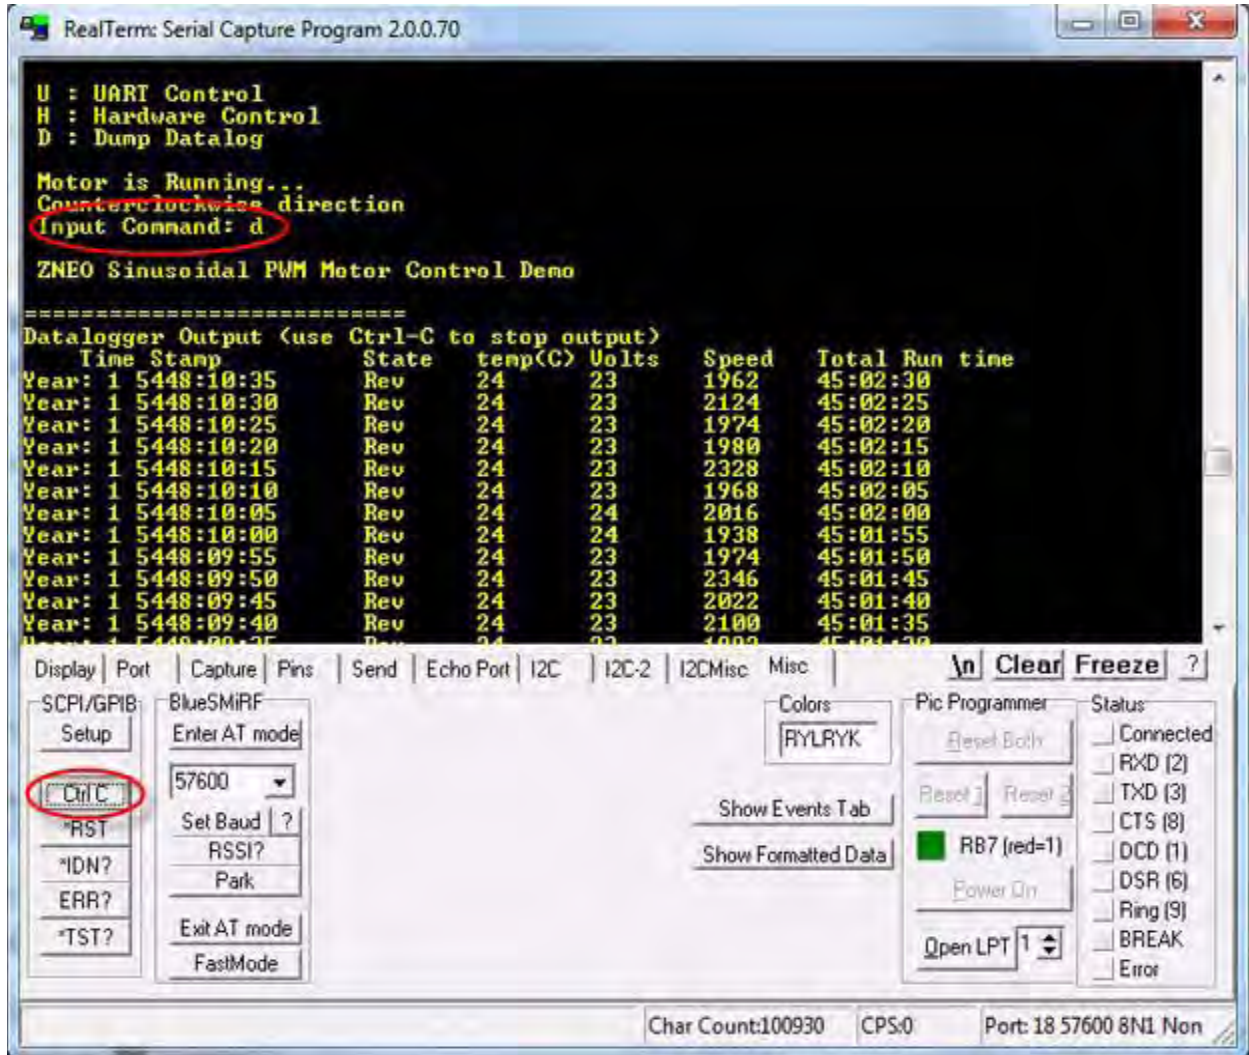
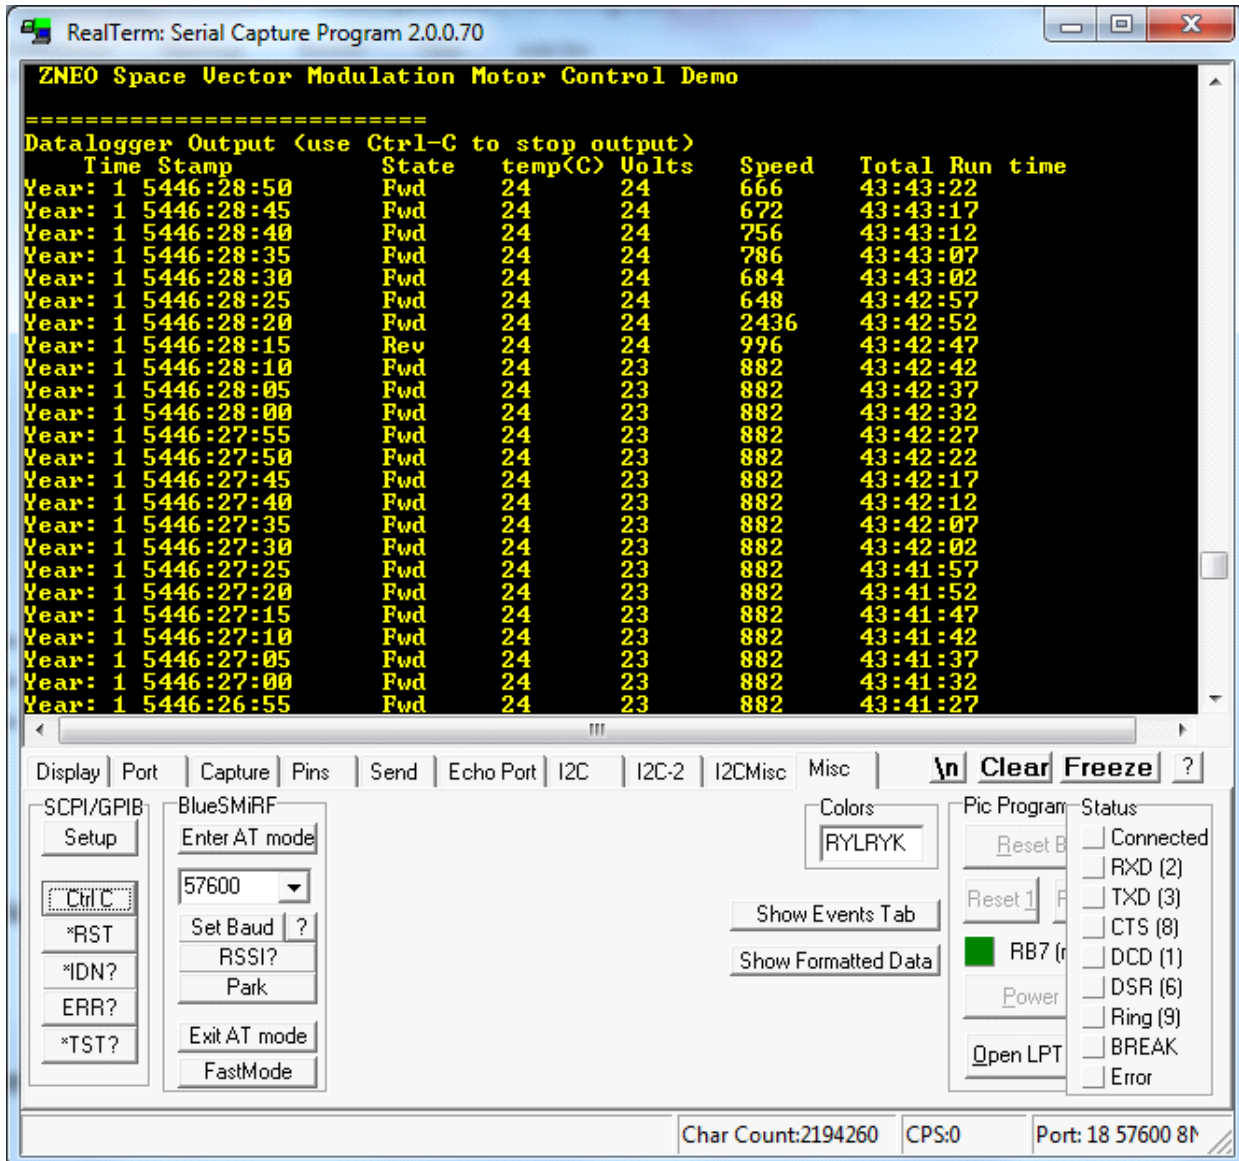

Figure 6. Commands for Viewing Logged Data
Figure 7. Logged Data Displayed in the RealTerm Terminal
- At the Input Command: prompt in the RealTerm window, enter the character d and press Enter to dump the data from the data logger, as indicated in Figure 6.
14. Click the **Ctrl+C** button, as indicated in Figure 6, to halt the data dump and view the logged data, which is shown in Figure 7.